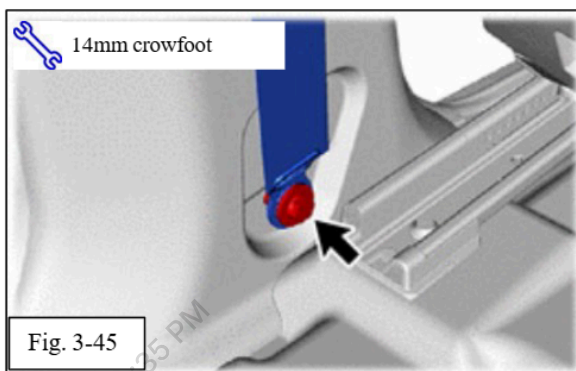

Fig. 3-45
- (al) Re-install the LH side seat belt lower anchor bolt on the B-Pillar using a 14mm crowfoot (Fig. 3-45).